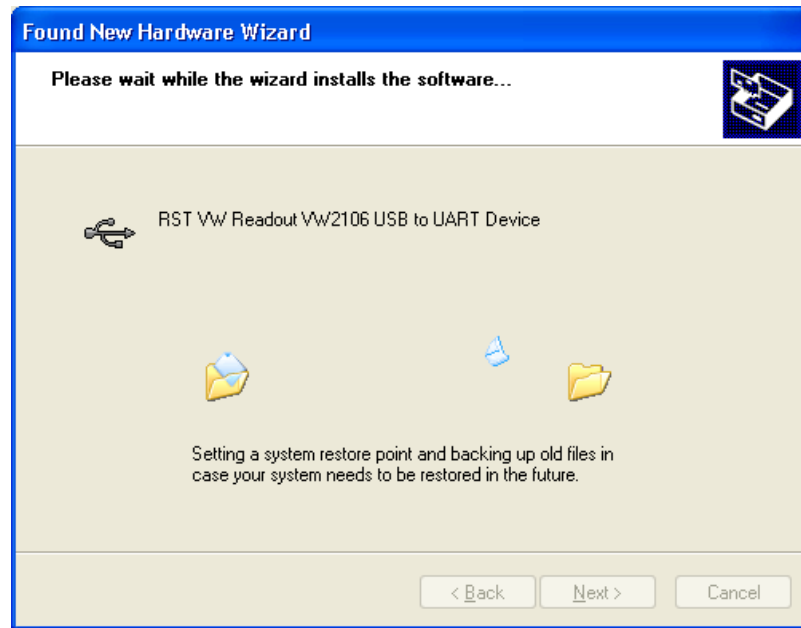
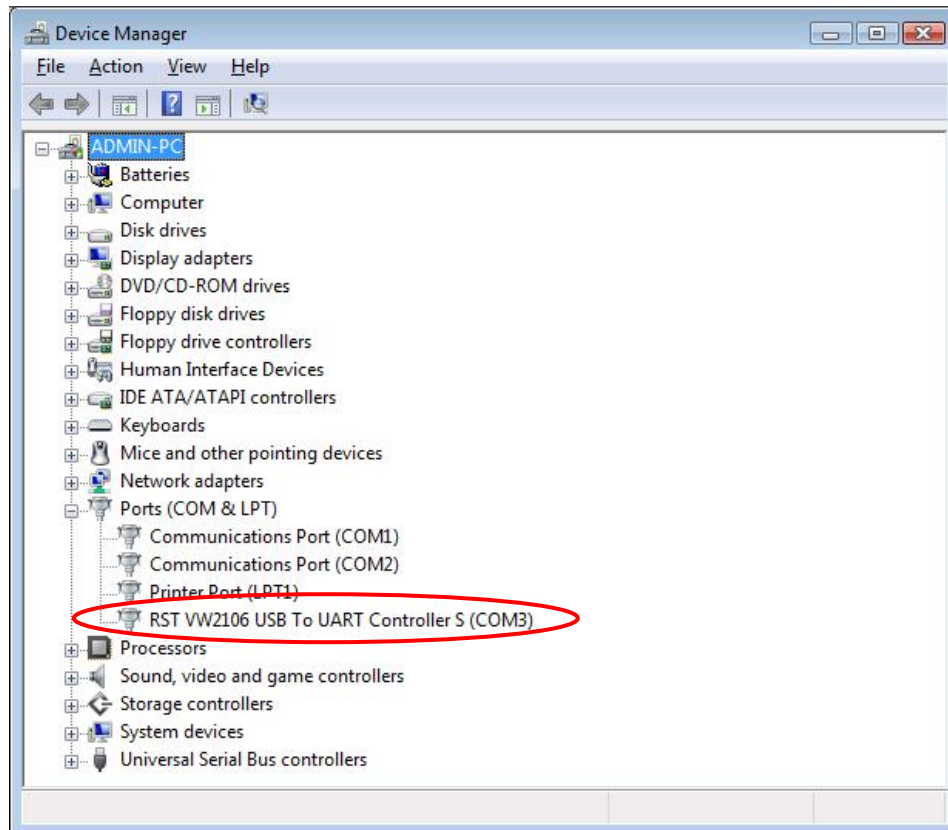

Figure 84 – New Hardware Wizard for Device – File Transfer
Figure 97 – Windows Vista and Windows 7, 8.1, 10 Device Manager
If the driver was installed correctly, the RST VW Readout VW2106 USB to UART Controller port will appear as in Figure 84 above. If the driver has not been installed correctly, yellow exclamation mark will appear next to the device. Once the above has been verified, note the COM number which has been assigned to the USB serial port. This will vary from computer to computer, in this example it is COM5.
If the driver was installed correctly, the RST VW Readout VW2106 USB to UART Controller port will appear as in Figure 97 above. If the driver has not been installed correctly, yellow exclamation mark will appear next to the device. Once the above has been verified, note the COM number which has been assigned to the USB serial port. This will vary from computer to computer, in this example it is COM3.
- a. Please ensure that the drivers are installed by navigating to the *Windows Device Manager* and verifying that the USB to UART Controller appears under *Ports(COM & LPT)* as shown in Figure 84 – WindowsXP Device Manager in Section 14.1.2 or in Figure 97 – Windows Vista and Windows 7, 8.1, 10 Device Manager.